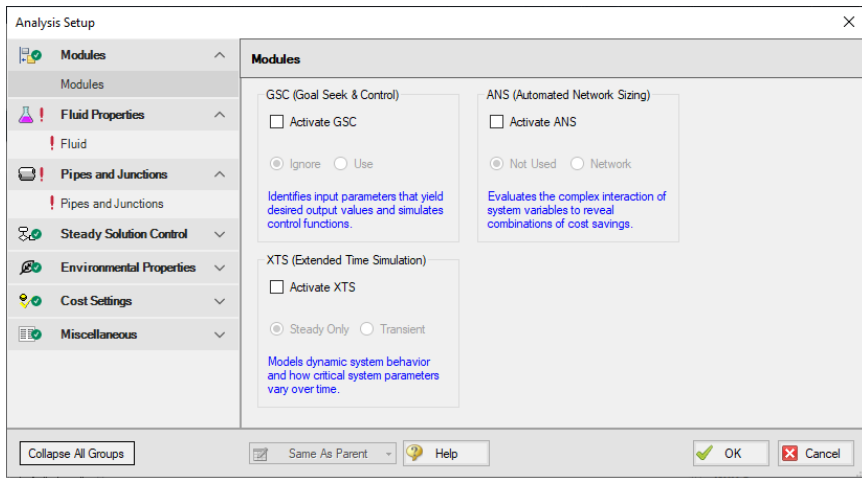

Figure 2.4 On the Modules panel, you can enable or disable any module
- **Click Analysis Setup on the common toolbar.** This opens the Analysis Setup window (see Figure 2.4). The Analysis Setup window contains seven or more *groups* depending on which Add-on Modules you may be using. Each group has one or more *items*. A fully defined group has every item within it defined with all required inputs. Complete every group to run the Solver. A group or item that needs more information will have a red exclamation point to the left of the group or item name. After completing a group, the group icon shows a green circle with a checkmark. After defining all groups, thus completing the Analysis Setup, the Model Status light in the lower-right corner turns from red to green.
Under the Modules group, click on the Modules item to open the Modules panel, shown in Figure 2.4. Here you can enable and disable Add-on Modules if they are available on the license. These Add-on Modules include Goal Seek & Control (GSC), Extended Time Simulation (XTS), and Automated Network Sizing (ANS). By default, the model will have all modules disabled. Make no changes to this panel for this example.